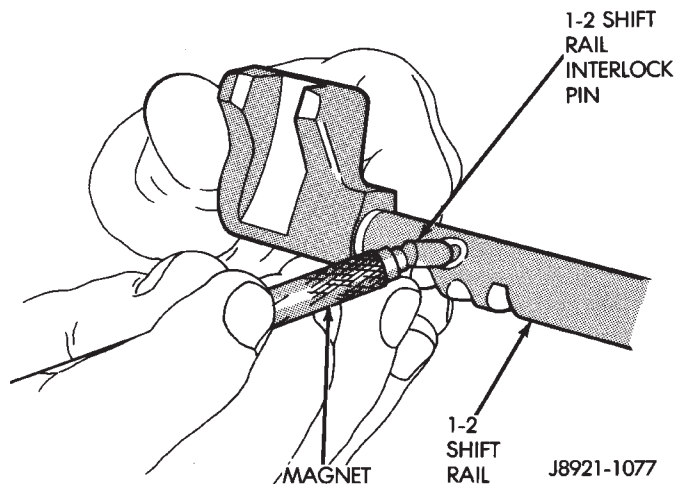

Fig. 75 Remove 1-2 Shift Rail Interlock Pin
(27) Remove the 1-2 shift rail interlock pin from the 1-2 shift rail (Fig. 75).